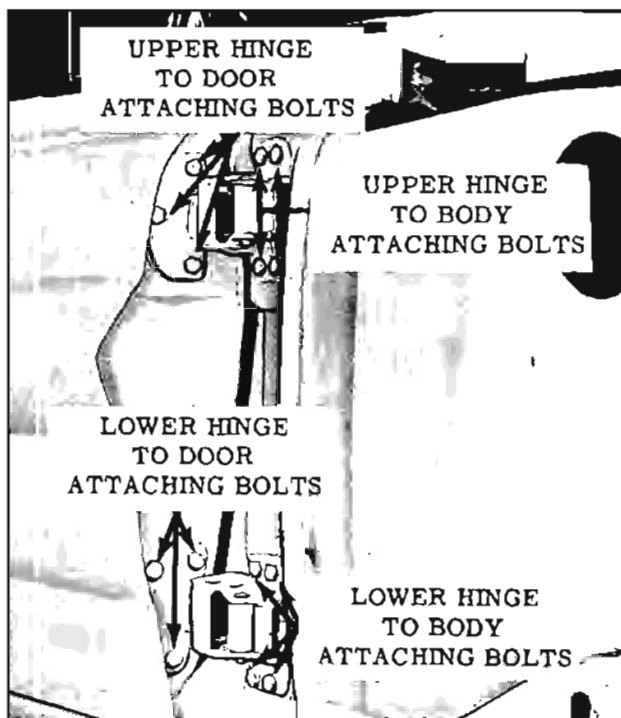

Fig. 16-35 Front Door Hinge Attachment
5. With door properly supported, remove bolts securing upper and lower hinges to front body hinge pillar or door hinge pillar. (Fig. 16-35) With aid of a helper, remove door assembly from body.
1. For in and out or up and down adjustments, loosen hinge to door pillar attaching bolts. (Fig. 16-35) Adjust door as required and tighten bolts.
2. To adjust door fore or aft, loosen hinge to body pillar attaching bolts. (Fig. 16-35) Adjust door as required and tighten bolts.